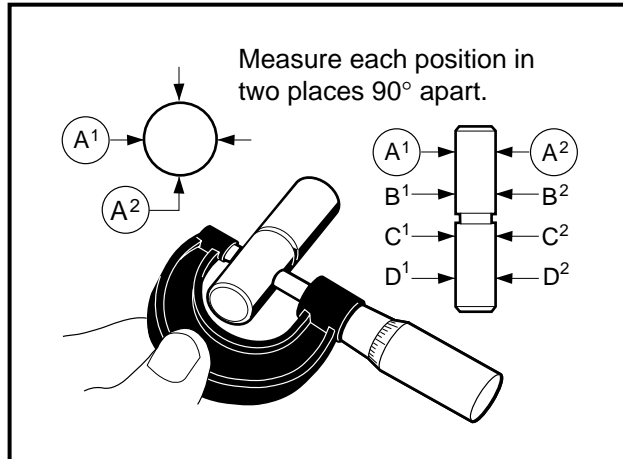

Figure 13-34 Measure Rocker Shaft I.D.
3. Using a micrometer, measure the diameter of the rocker shaft at several points along its length (Figure 13-34, Page 13-19).